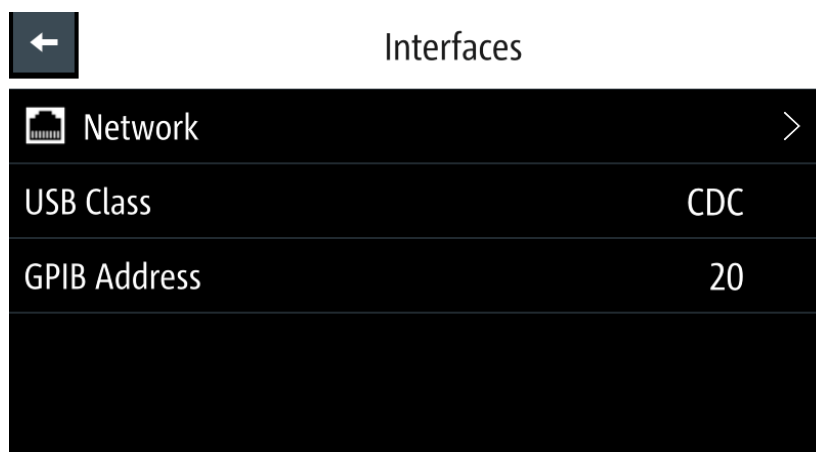

Figure 6-36: Interfaces dialog
- Select "Network" from the Figure 6-36.
1. Select "GPIB Address" from the Figure 6-36.